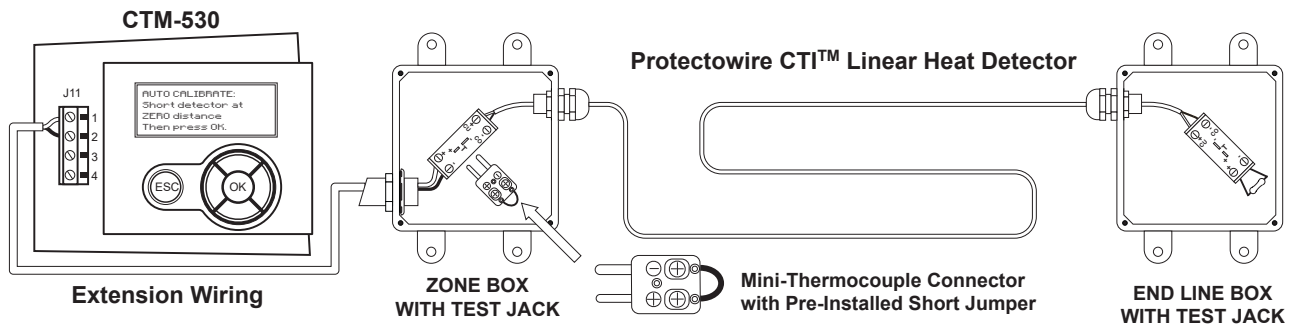

Figure 8
Step 1 - Before beginning the calibration procedure place a short across the beginning (ZERO distance) of the CTI linear heat detector run as depicted in Figure 8.